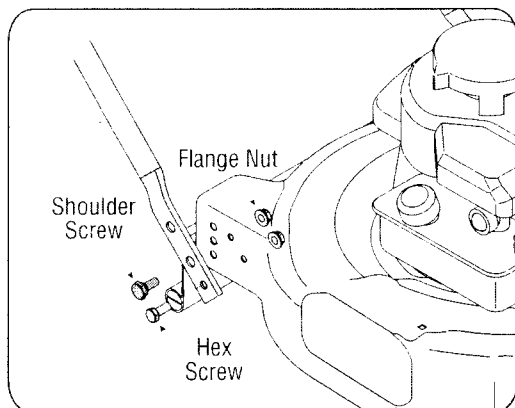

Figure 3: Attaching lower handle to mower deck.
3. Secure the lower handle to the deck using the hex screws, shoulder screws, and flange lock nuts from group 4 of the hardware pack. See Figure 3.